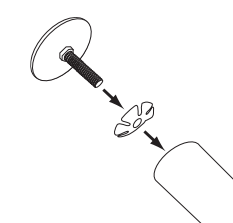

FIG. 7.0
- Using the length measurements for the (F) Garment Bars obtained from your selected configuration (refer to selected configuration layout), measure and cut to length if required.
- Select Garment Bar End Cap and Screw insert Nut onto Bar End (Fig. 7.0)